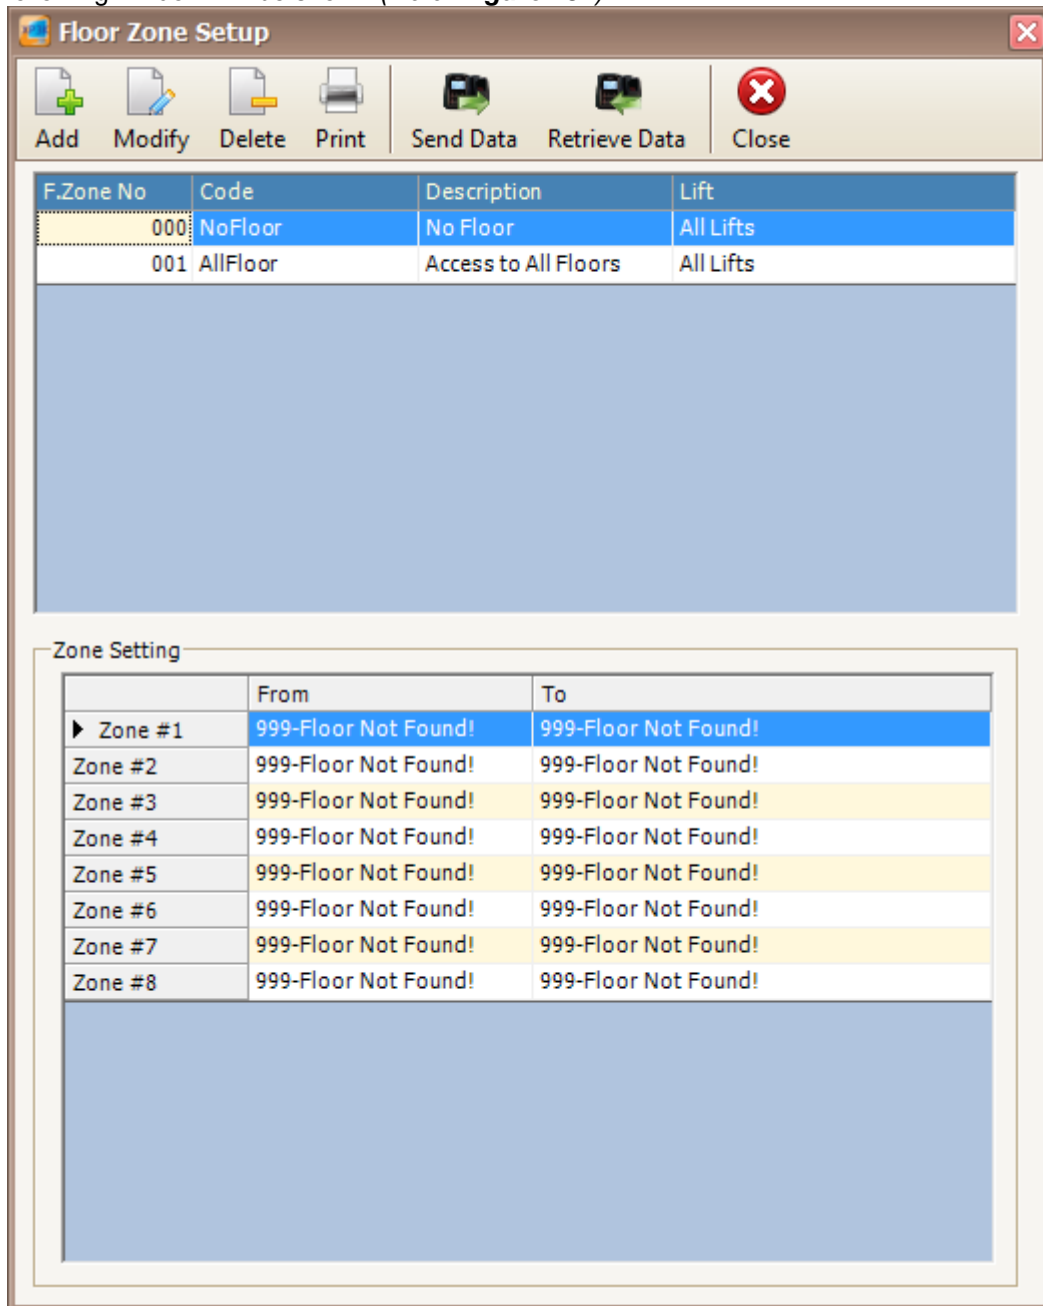

Figure 181 - Floor Zone Setup
2. The following window will be shown (Refer **Figure 181**).